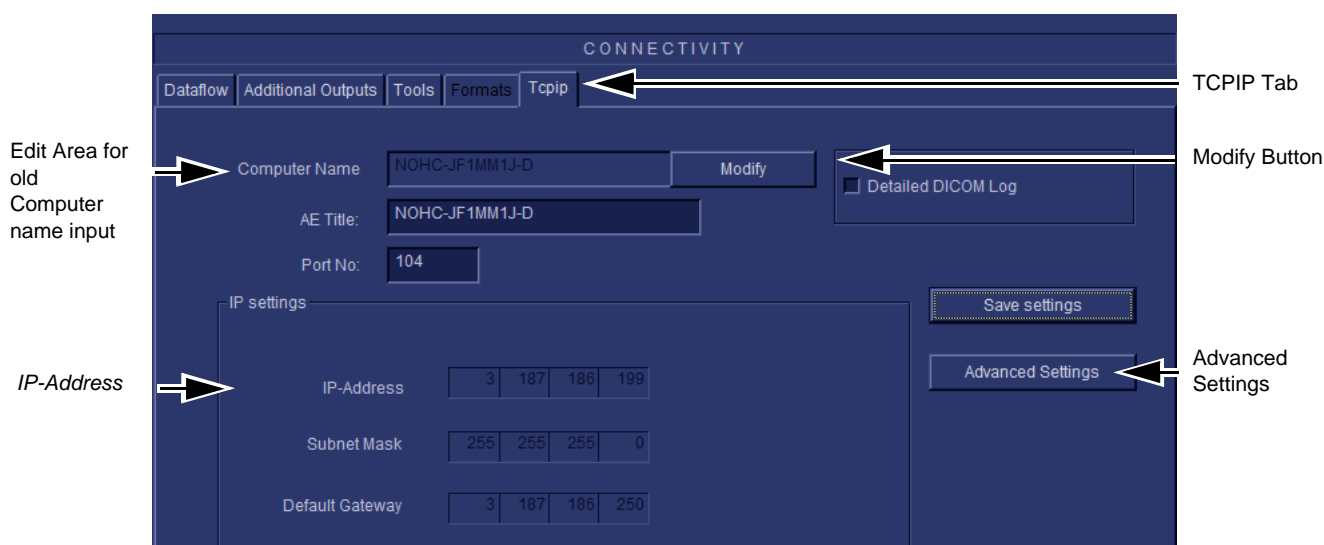

Figure 8-73 Verify TCP-IP set-up
- 5.) Select **Advanced Settings**. (See Figure 8-73 "Verify TCP-IP set-up" on page 8-63.)